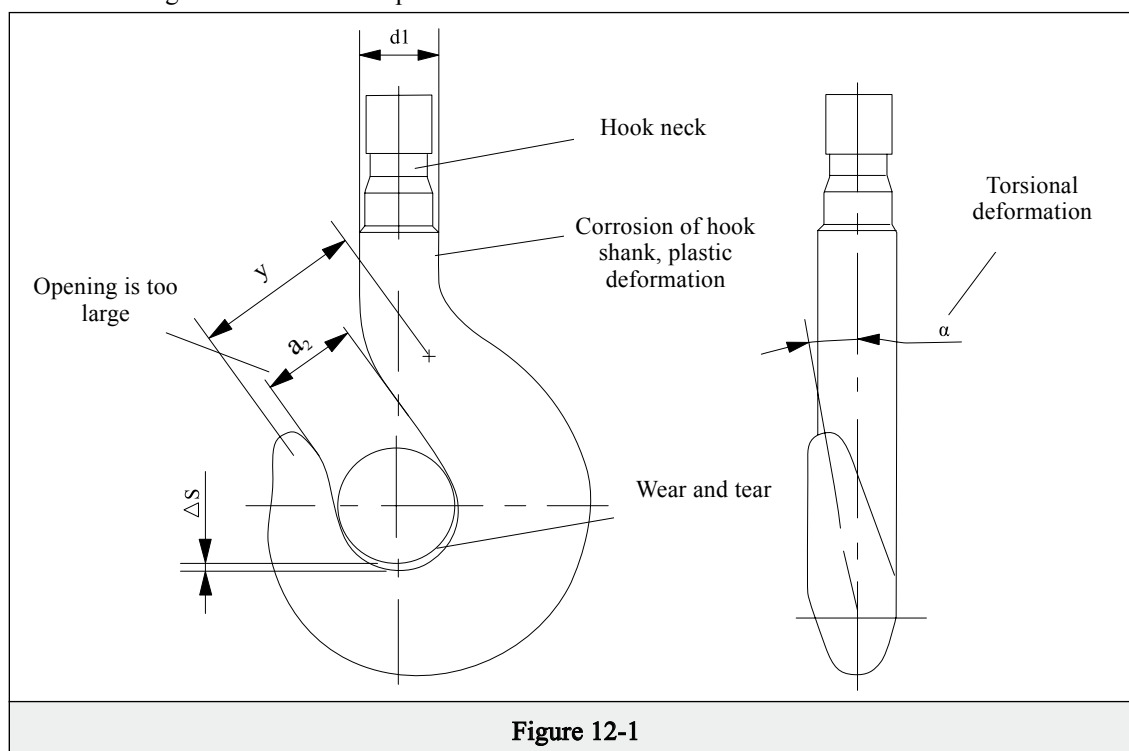

Figure 12-1
1)The hook should be checked the measuring length y value (as shown in figure 12-1), the hook should be scrapped when the value is more than 10% of the size before use.
2)Check hook the torsional deformation, the hook should be scrapped when the torsion angle α (as shown in figure 12-1) is more than 10° .
Hook wear ΔS (as shown in figure 12-1) shall not exceed 5% of the basic size, and otherwise the hook should be scrapped.
1)Corrosion size of the hook shank diameter d_1 (as shown in figure 12-1) should not be more than 5% of the basic size, otherwise the hook should be scrapped.
- c. The other hooks should be checked the values of measuring length y (as shown in Figure 12-1), when the values exceed 10% of the nominal dimensions before use, the hooks should be scrapped;